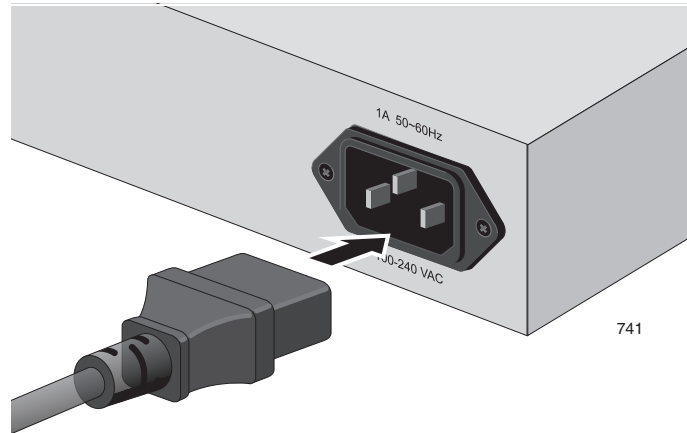

Figure 18. Connecting the AC Power Cord
1. Plug the power cord into the AC power connector on the back panel of the unit, as shown in Figure 18.